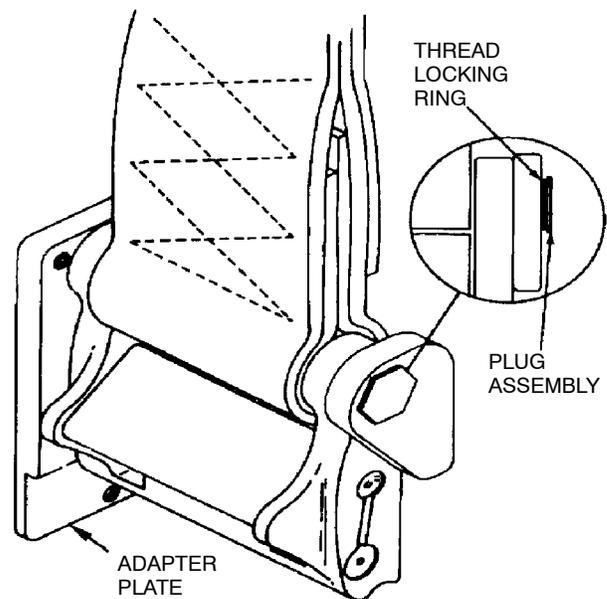

Figure 19. Install Plug
h. Install plug finger-tight into adapter plate until thread locking ring contacts adapter plate. If any resistance is felt, remove and inspect plug for cross threads or broken shear pin, repeat step (Figure 19). (QA)